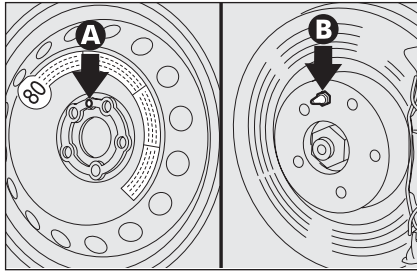

fig. 8
- fit the space-saver spare wheel making one of the holes **A-fig. 8** coincide with the relevant pin **B**;